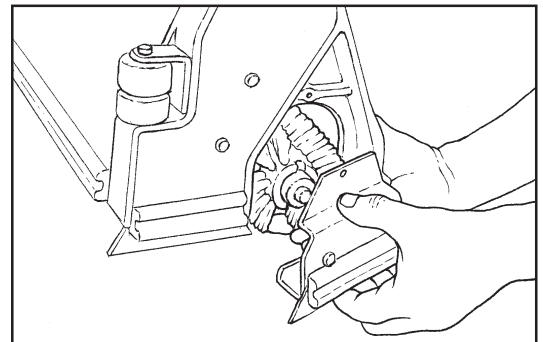

Figure 16
5. Lower door approximately $\frac{1}{2}$ inch and slide door and bearing assembly off shaft (figure 16).